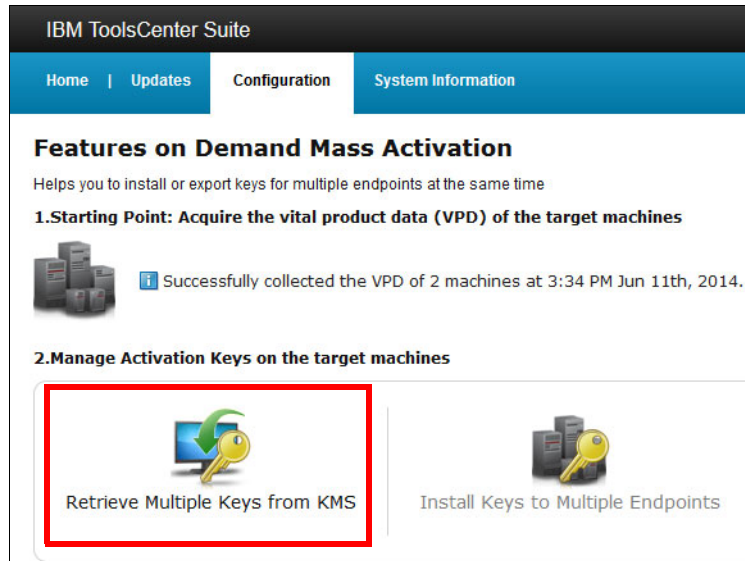

Figure 3-56 Retrieve Multiple Keys
- Click **Return** to return to main page. Then, click **Retrieve Multiple Keys from KMS** to begin key retrieval process, shown in Figure 3-56.